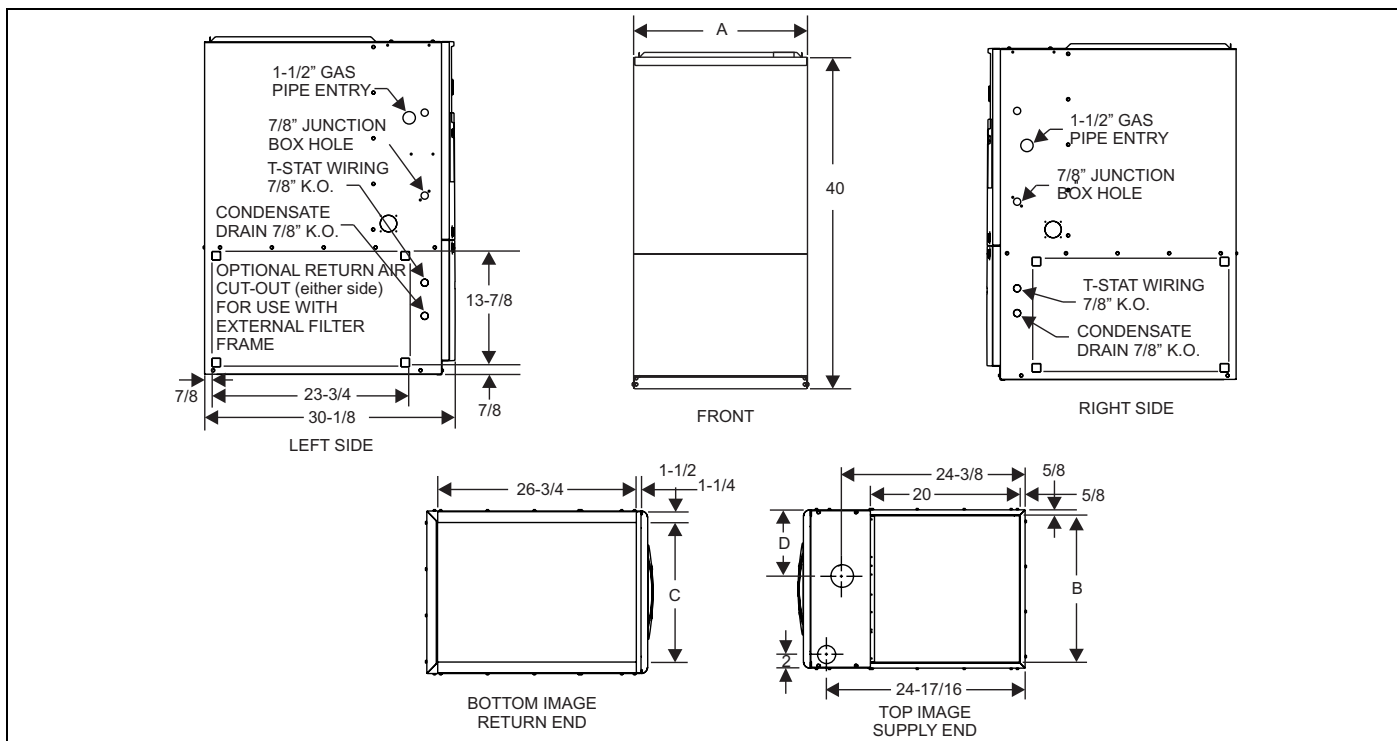

FIGURE 1: Dimensions
4. Be sure to seal the furnace to plenum connections to prevent air leakage. Refer to Figure 1 for unit and plenum dimensions.
Locate and mark the side return opening. Refer to Figure 1 for dimensions of the cutout.
IMPORTANT: Some accessories such as electronic air cleaners and pleated media may require a larger side opening. Follow the instructions supplied with that accessory for side opening requirements. Do not cut the opening larger than the dimensions shown in Figure 1.
Gas piping may be connected from either side of the furnace using any of the gas pipe entry knockouts on both sides of the furnace. Refer to Figure 1 dimensions.